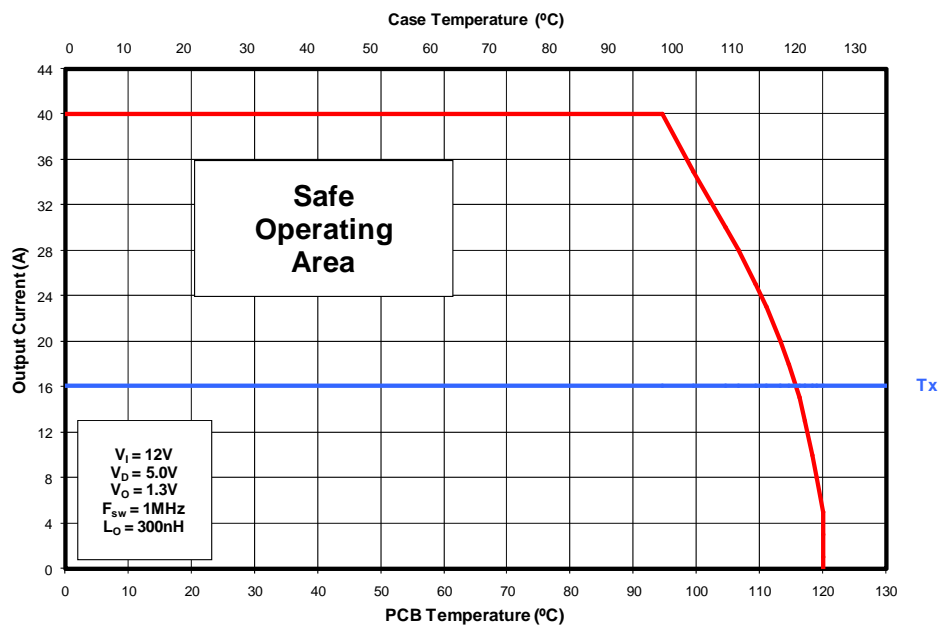

Figure 2 Safe Operating Area (SOA) versus PCB and CASE temperatures (See page 6 for details)
3. Then, add the sum of the SOA temperature adjustments to the T_X axis intercept in Figure 2